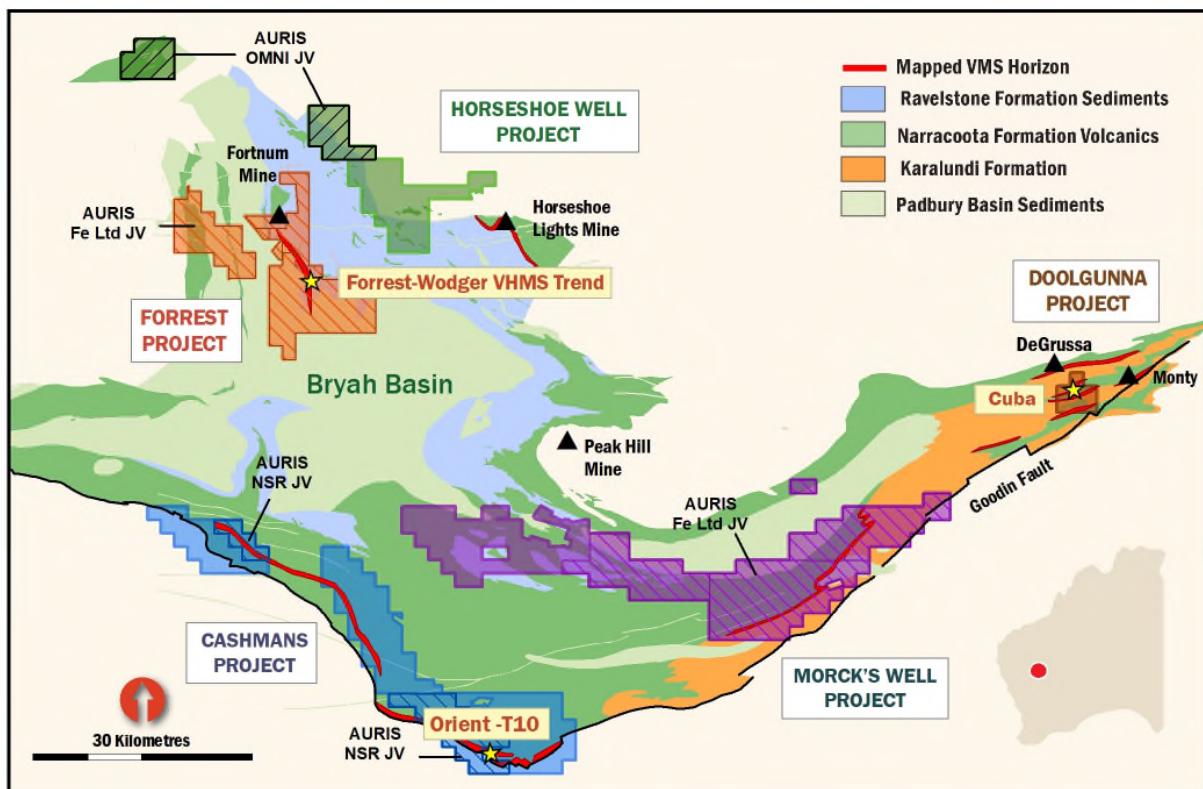

Figure 4: Auris's copper-gold exploration and mining portfolio with highly prospective target locations
Auris Minerals Limited (ASX:AUR) is pleased to provide an update on exploration progress at the Wodger Prospect (part of the Company's Forrest Project¹ - ASX:**AUR**, Auris 80%; ASX:**FEL**, Fe Ltd 20%), located in Western Australia's Bryah Basin (Figure 4).
1. The Forrest Project tenements (Figure 4) have the following outside interests: